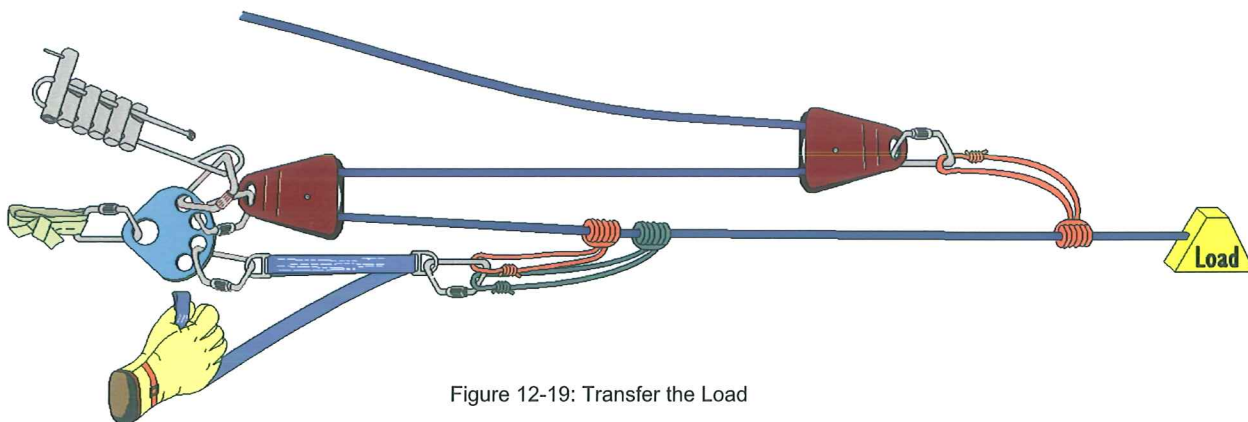

Figure 12-19: Transfer the Load
- Transfer the load according to manufacturer's instructions. (Figure 12-19)